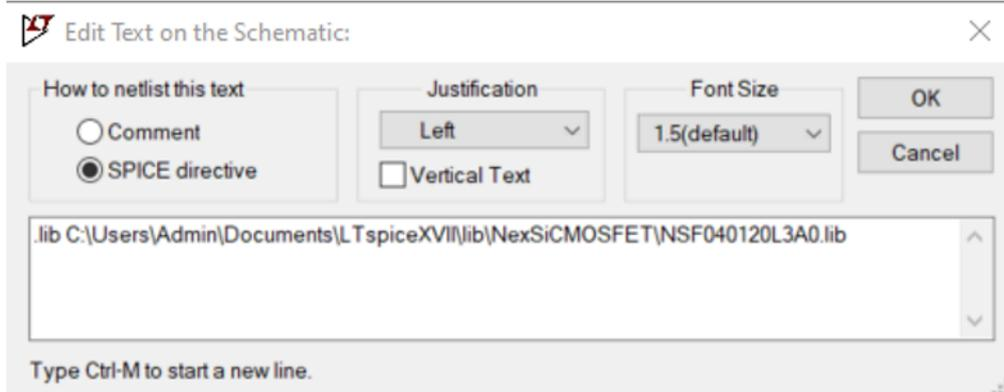

Fig. 4. SPICE directive editor with '.lib' command to link with NSF040120L3A0.lib library path
3. The user must include library path for the models manually into the schematic. The .lib SPICE directive command will link the respective model library file (.lib) with the symbol in the schematic. For example, the symbol placed with the attribute value, NSF040120L3A0 must be linked with the NSF040120L3A0.lib file. This is done by placing the library path with SPICE directive as shown in Fig. 4, example location: "C:\Users\Admin\Documents\LTspiceXVII\lib\NexSiCMOSFET\NSF040120L3A0.lib"